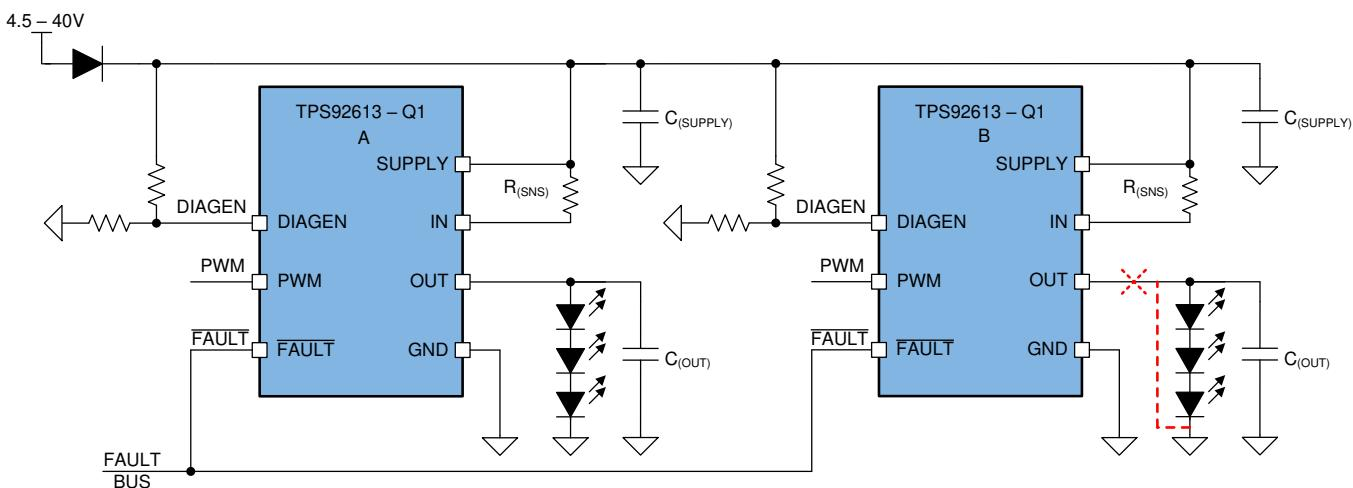

Figure 22. Typical Application Schematic for One-Fails–All-Fail
Based on this feature, the TPS92613-Q1 device is able to construct a FAULT bus by tying FAULT pins from multiple TPS9261x-Q1, TPS9263x-Q1 or TPS92830-Q1 devices to realize one-fails-all-fail function as Figure 22 showing. The right side TPS92613-Q1 (B) detects either LED open-circuit fault or LED short-to-GND fault and pulls low the FAULT pin. The low voltage on FAULT pin is detected by left side TPS92613-Q1 (A) because the FAULT pins are connected of two devices. The left TPS92613-Q1 (A) turns off the output current as a result.